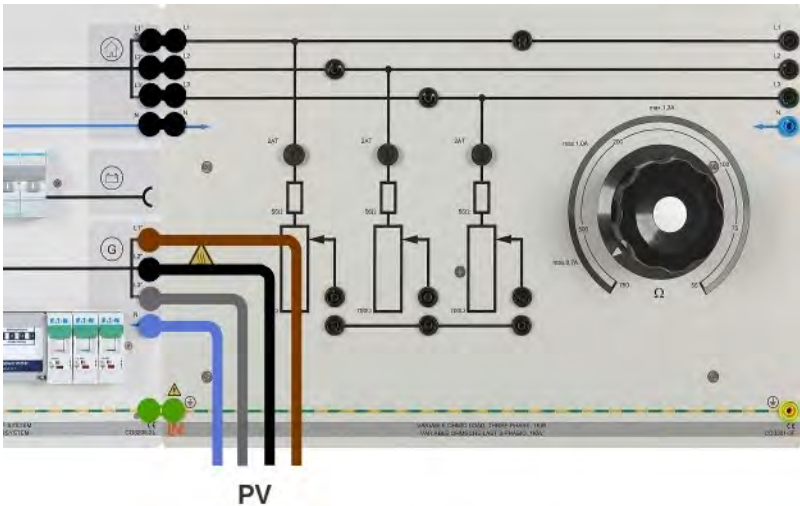

Figure 16
2. Remove the jumper of the neutral point on the variable resistor as in Figure 16.